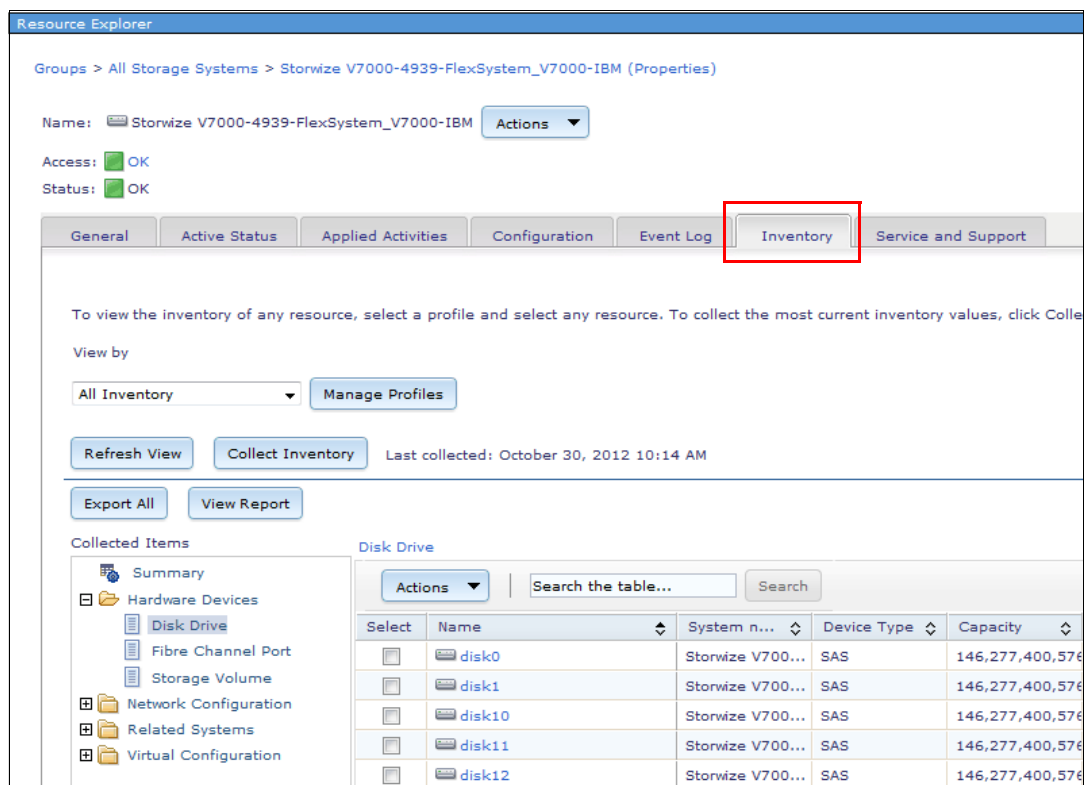

Figure 3-93 Inventory of Storage
- Select the tab Inventory to collect the inventory, as shown in Figure 3-93.